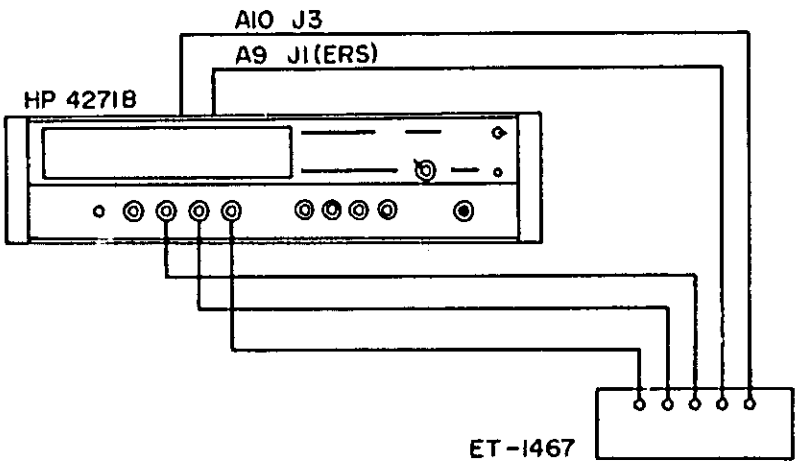

Figure 5-17. HP 4271B Connections to ET-1467.
- a. Set 4271B and ET-1467 as in Figure 5-17.